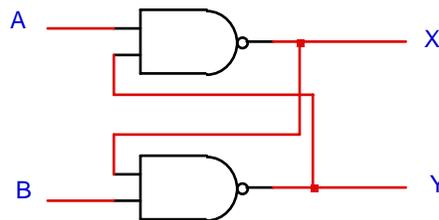

Figure 2
- a) **Do5:** For the circuit of Figure 2, set up a transition table summarizing the operation of the circuit. This table shows all possible “current” value combinations for A , B , X , and Y in a truth table, and also shows the resulting “next” values for X and Y .